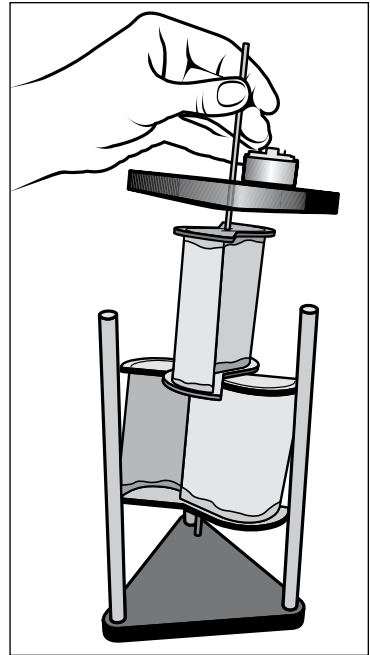

Figure 12
5) Drop the small steel ball into the hole in the center of the rotor base. Push the brass rod through the hole in the rotor top so the gears mesh. Place this on top of the rotor base, aligning the dowel rods with the holes on bottom of the rotor top and fitting the brass rod into the small hole in the rotor base (Figure 12).